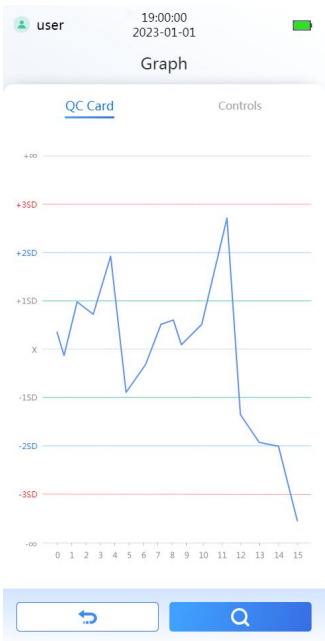

Figure 15 Quality control chart interface
14. Click the QC chart button  in the QC interface to enter the QC chart operation interface (Figure 15 below).